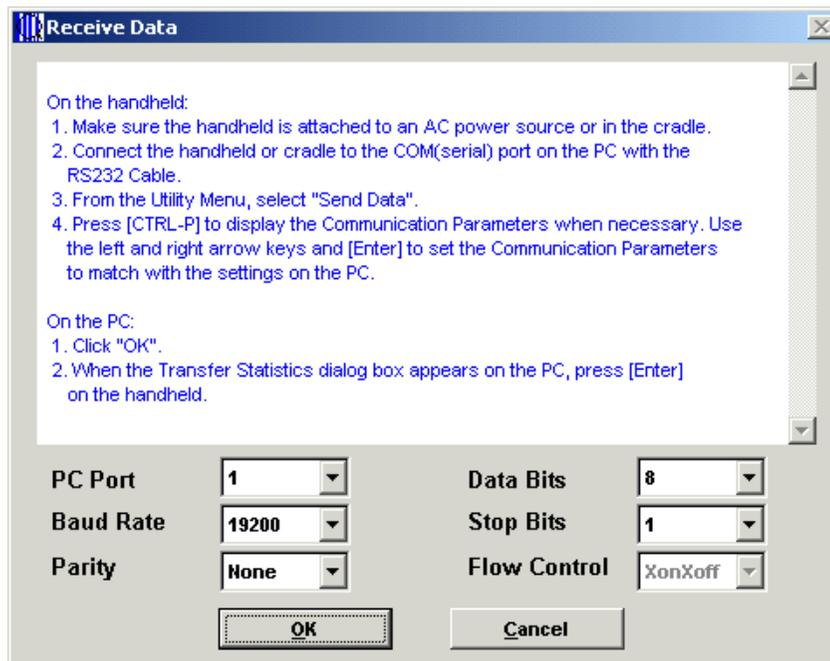

Figure 22. Uploading data to the PC
10. Click **Handheld > Receive Data**. Figure 22 appears.